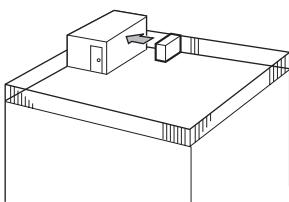

Fig. 3-2
- Face the air outlet towards the nearest available wall about 50 cm (19-11/16") away from the wall. (Fig. 3-2)